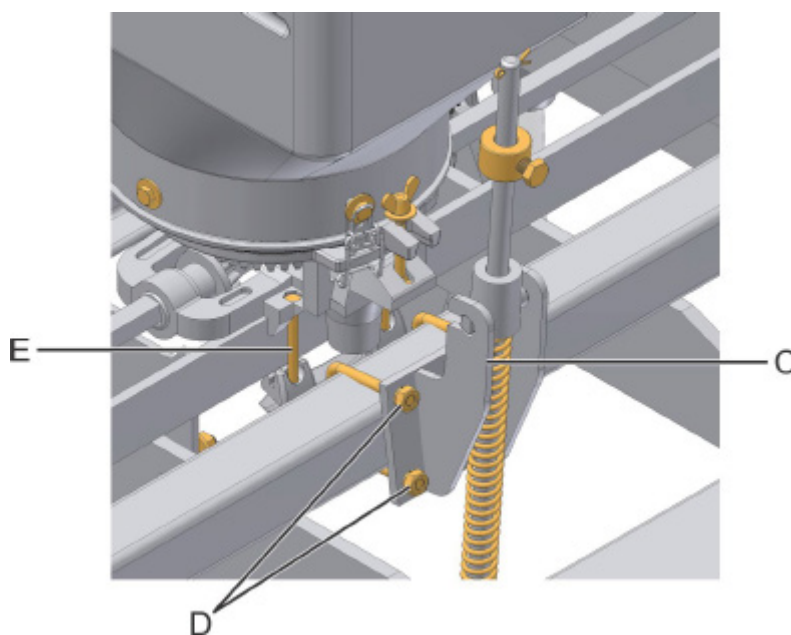

fig. 06
- 5- Loosen the articulator of the rods (C) (fig. 06), through the anchor nuts of the clamps (D). Align the rods with the furrow line. Fasten the articulator of the rods and furrow line unit;
- 7- Loosen the anchor nuts of the seed tanks (E) (fig. 06), and align them related to the furrow lines.